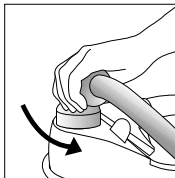

Figure 4
- To remove the Steamer Hose, ensure unit has cooled completely (at least 30 minutes). Slowly turn counterclockwise 1/4 turn; push down and continue to turn until hose releases. (See Figures 4, 5 and 6.)